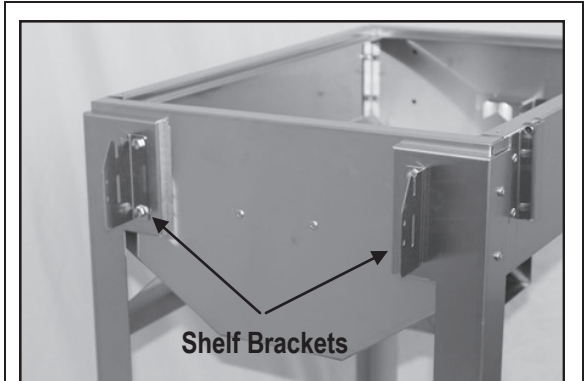

Fig. 10
1. Attach brackets to grill using bolts and kef nuts to each side of your grill as shown in (Fig. 10) Use 2 bolts and kef nuts per bracket.